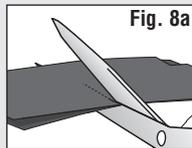

Fig. 8a
- Lay the two sheets on top of each other, then cut a notch halfway up (Fig. 8a).